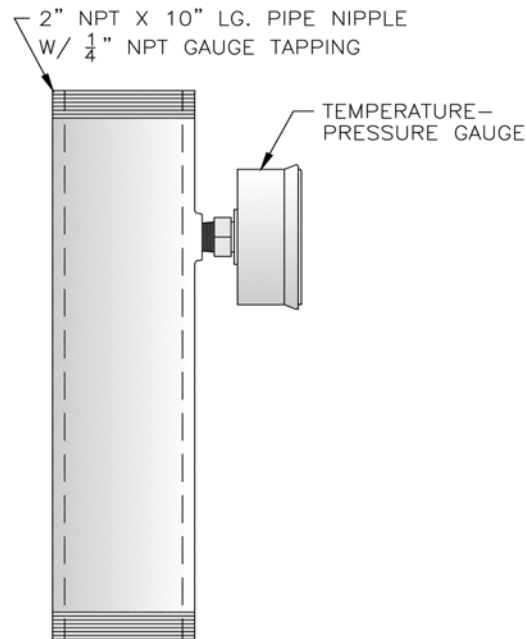

Figure 9: Temperature-Pressure Gauge Installation
- c. Temperature-Pressure Gauge - Install the T&P gauge in tapping "H". Tapping "H" is located on the supplied 2" NPT x 10" supply nipple (See Figure 9). **DO NOT TIGHTEN THE GAUGE BY ITS CASE.**
- 5) This boiler may be vented using a listed power venter. The power venter must be sized and installed in accordance with the power venter manufacturer's instructions, the terms of the power venter listing, and applicable codes. The boiler must be electrically interlocked with the power venter to prevent boiler operation if the power venter fails to operate. Before deciding to use a power venter, make certain that the flue gas exiting the power venter will not damage adjacent construction or other structures. Also make certain that the power venter terminal will not be subjected to winds which could effect power venter operation. The factory supplied draft hood must still be installed and may not be altered. See Figure 9.